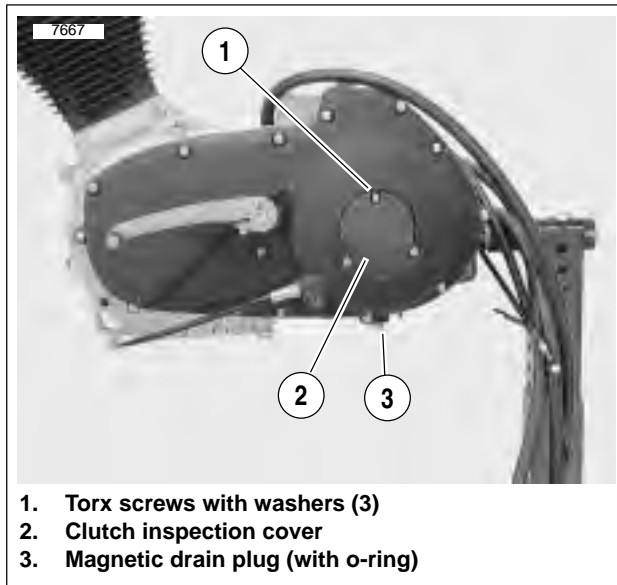

Figure 1-15. Primary Cover
4. See Figure 1-15. Remove three TORX screws with washers (1) from clutch inspection cover (2). Remove clutch inspection cover from primary cover.
6. See Figure 1-15. Install clutch inspection cover using three TORX screws with washers. Tighten in a crosswise pattern to 84-108 in-lbs (9.5-12.2 Nm).
2. See Figure 1-15. Position a suitable container under drain plug (3). Remove magnetic drain plug with O-ring and drain fluid.
3. Wipe any foreign material from the magnetic drain plug (3). Inspect O-ring for deterioration and replace as required. Reinstall drain plug with O-ring. Tighten drain plug to 14-30 ft-lbs (19.0-54 Nm).
9. See Figure 1-15. Install clutch inspection cover using three TORX screws with washers. Tighten in a crosswise pattern to 84-108 **in-lbs** (9.5-12.2 Nm).